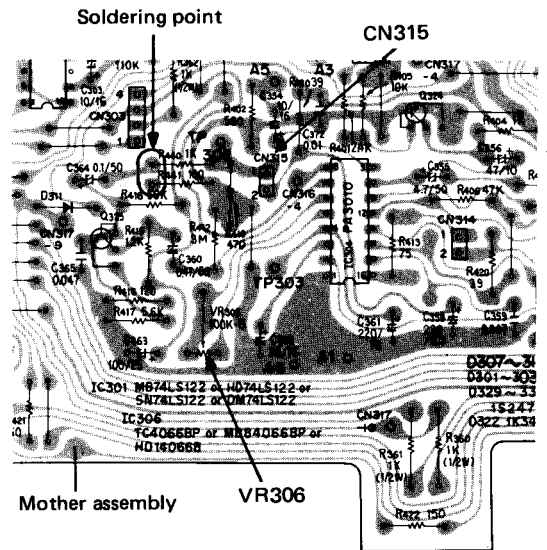

Fig. 7 Soldering point
2. If -10dBv is exceeded, bridge the section shown in Fig. 7 by soldering.